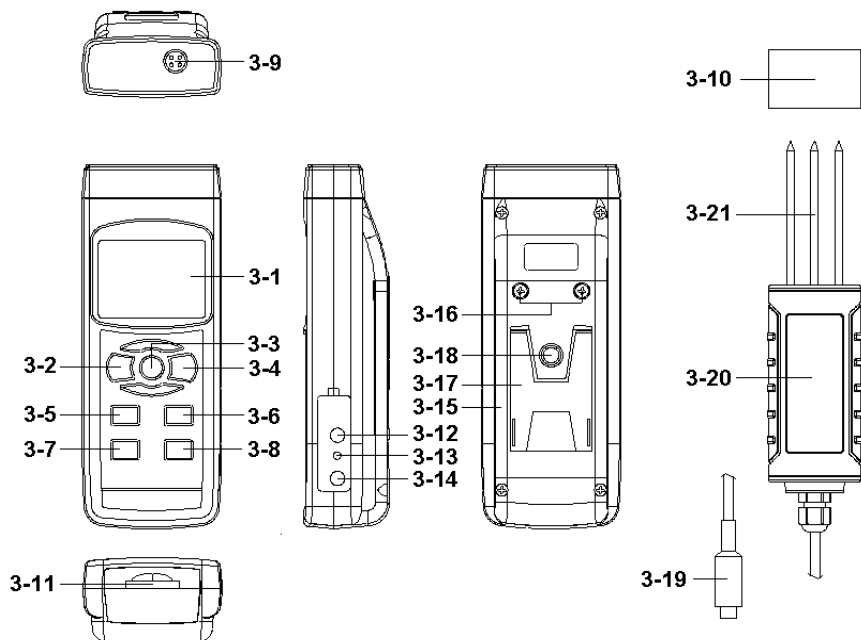

Fig. 1
- 1) Power on the meter by pressing the " Power button " ( 3-2, Fig. 1 ) > 3 seconds continuously.
- 2) Install the " Probe Plug " ( 3-19, Fig. 1 ) into the " Probe Input Socket " ( 3-9, Fig. 1 ).
- 4) Use the hand to hold the " Sensor Handle " ( 3-20 ), sensor test stainless 4pin " soil Sensor " ( 3-21, Fig. 1 ) into soil about 4 cm to measurement soil moisture & temp., The display will show the soil measurement value.
During the measurement, press the " Hold Button " ( 3-3, Fig. 1 ) once will hold the measured value & the LCD will display a " HOLD " symbol.
- 1) The data record function records the maximum and minimum readings. Press the " MAX/MIN Button " ( 3-4, Fig. 1 ) once to start the Data Record function and there will be a " REC " symbol on the display.
- a) Press the " MAX/MIN Button " ( 3-4, Fig. 1 ) once, the " REC MAX " symbol along with the maximum value will appear on the display.
- b) Press the " MAX/MIN Button " ( 3-4, Fig. 1 ) again, the " REC MIN " symbol along with the minimum value will appear on the display.
- c) Press the " MAX/MIN Button " ( 3-4, Fig. 1 ) again, the " MIN " symbol will be disappeared, LCD only show the " REC " symbol, the meter start the Data Record function again.
- 3) To exit the memory record function, just press the " MAX/MIN Button " ( 3-4, Fig. 1 ) > 3 seconds continuously. The display will revert to the current reading.
- 1) After power ON, the " LCD Backlight " will light automatically. During the measurement, Push the " Backlight Button " ( 3-2, Fig. 1 ) once , will turn OFF the " LCD Backlight ".
Prepare a " SD memory card " ( 1 G to 16 G, optional ), insert the SD card into the " SD card socket " ( 3-11, Fig. 1). The front panel of the SD card should face against the the down case.
Press the " LOG Button ( 3-8, Fig. 1 ) > 3 seconds continuously, the upper LCD show symbol of " LOGGER " then " SAVE " symbol will flashing per sampling time, at the same time the measuring data along the time information will be saved into the memory circuit.
During execute the Datalogger function, if press the " LOG Button " ( 3-8, Fig. 1 ) once will pause the Datalogger function ( stop to save the measuring data into the memory circuit temporally ). In the same time the the " SAVE " symbol will stop flashing, the upper LCD will show the text of " LOGGER ".
*If press the " LOG Button " ( 3-8, Fig. 1 ) once again will execute the Datalogger again, the " SAVE " symbol will flashing.*
During execute the Datalogger function, press the " LOG Button ( 3-8, Fig. 1 ) > 3 seconds continuously again will finish the Datalogger function, the " LOGGER " symbol will be disappeared and finish the Datalogger.
Press the " LOG Button ( 3-8, Fig. 1 ) > 3 second , the upper LCD will show the " Position no. " , then press the " LOG Button " ( 3-8, Fig. 1 ) once, the " LOGGER " symbol will flashing once and Beeper will sound once, at the same time the measuring data along the time information will be saved into the memory circuit.
*During execute the Manual Datalogger, it can use the " ▲ Button " ( 3-5, Fig. 1 ) or " ▼ Button " ( 3-6, Fig. 1 ) to set the measuring position ( 1 to 99, for example room 1 to room 99 ) to identify the measurement location , the lower Display will show  $P \times$  (  $x = 1$  to 99 ). (  $x = 1$  to 99 ).*
During execute the Datalogger function, press the " LOG Button ( 3-8, Fig. 1 ) > 3 seconds continuously again will finish the Datalogger function, the Position no. " PXX " will be disappeared and finish the Datalogger. function.
During the normal measurement ( not execute the Datalogger ), If press " Clock Button " ( 3-7, Fig. 1 ) once , the LCD display will present the time information of Year/Month, Date/Hour, Minute/Second and the Sampling time information in same time.
- 1) After execute the Data Logger function, take away the SD card out from the " SD card socket " ( 3-11, Fig. 1 ).